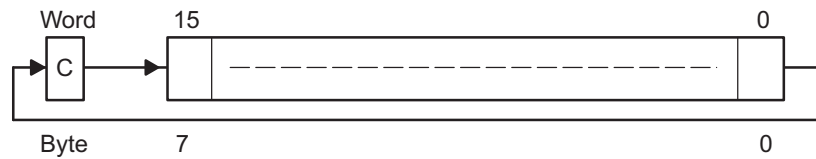

Figure 3-18. Destination Operand - Carry Right Shift
Description The destination operand is shifted right one position as shown in Figure 3-18. The carry bit (C) is shifted into the MSB, the LSB is shifted into the carry bit (C).